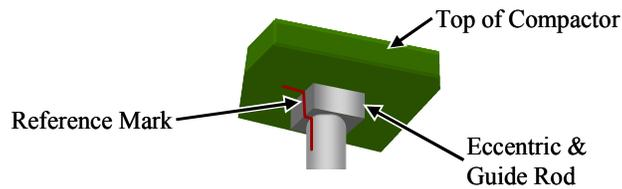

Figure 4 – Marking Eccentric Position
5. With a waterproof marker, draw reference marks to denote the position of the eccentrics on the compactor. The reference mark/line should start on the underside of the compactor top and continue, unbroken, down to the guide rod as shown in Figure 4. These marks should be as clear as possible, as they will be used as reference points during the installation and adjustment of the SCA.